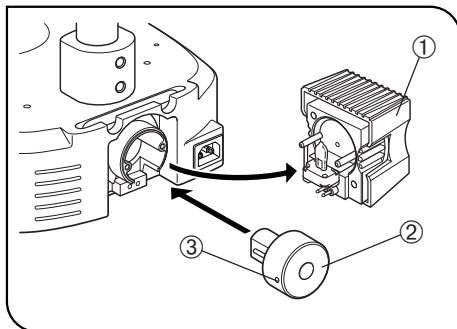

Fig. 14
(Figs. 14 & 15)
1. Remove the lamp socket ① from the illumination stand by gently pulling the socket toward the rear of the stand. (Fig. 14)
2. Hold the transmitted light guide adapter ② so that the clamping screw ③ comes on the side, align the guide pin with the guide hole, and fit the adapter all the way into the position where the lamp socket has been, until it is stopped. (Fig. 14)